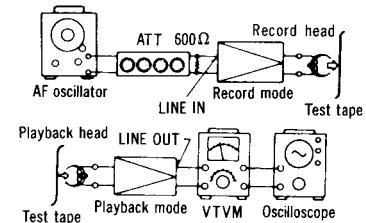

Fig. 17
1. Test equipment connection is shown in fig. 17.
<p>① Fluorescent meter</p> <p>Condition:</p> <ul style="list-style-type: none"> * Record mode * Input level controls...MAX * Output level control...MAX * Tape selector <ul style="list-style-type: none"> ...Normal position <p>Equipment:</p> <ul style="list-style-type: none"> * VTVM * AF oscillator * ATT 	<ol style="list-style-type: none"> Test equipment connection is shown in fig. 17. As shown in fig. 24, connecting the base of Q102 and ground stops the oscillation of the a stable multivibrator comprising Q102 and Q103. Supply 1kHz signal (-24 dB) to the LINE IN jack, then press the record button. Adjust the ATT so that the output level at LINE OUT jack becomes 0.7 V (The input level at this condition is termed the standard input level). Adjustment at "-20 dB": <ol style="list-style-type: none"> Adjust the ATT so that input level is -20 dB below standard recording level. Adjust VR101 so that the -20 dB segment lights up in the -20 ± 0.8 dB range (L-CH ONLY) (See fig. 25). Adjustment at "0 dB": <ol style="list-style-type: none"> Adjust the ATT so that the output level at LINE OUT jack becomes 0.7 V. (The input level at this condition is termed the standard input level.) Adjust VR102 so that the +1dB segment lights up in the 0 ± 0.2 dB range of the standard input level (See fig. 26). Repeat twice between steps (5) and (6) above. Adjust ATT and check that all segments light up when an input signal level is increased to 10dB higher than the standard input level (See fig. 27).  <p>Fig. 24</p>  <p>20 PEAK 6 • 4 • 2 • 0 • 2 □ □ -6 8 • Fig. 25</p>  <p>20 PEAK 6 • 4 • 2 • 0 • 2 □ □ -6 8 • Fig. 26</p>  <p>20 PEAK 6 • 4 • 2 • 0 • 2 □ □ -6 8 • (10dB) Fig. 27</p>